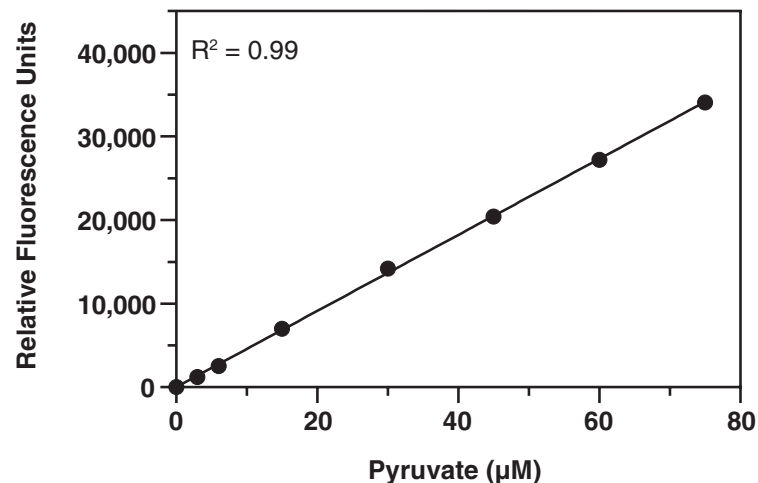

Figure 3. Pyruvate standard curve - fluorometric
2. Subtract the fluorescence or absorbance value of the standard A from itself and all other standards and samples. This is the corrected signal (CS).
3. Plot the corrected values (from step 2 above) of each standard as a function of the final concentration of pyruvate from Table 1 or 2 for the fluorometric or colorimetric methods, respectively. See Figures 3 and 4, on pages 23 and 24, respectively, for typical standard curves.